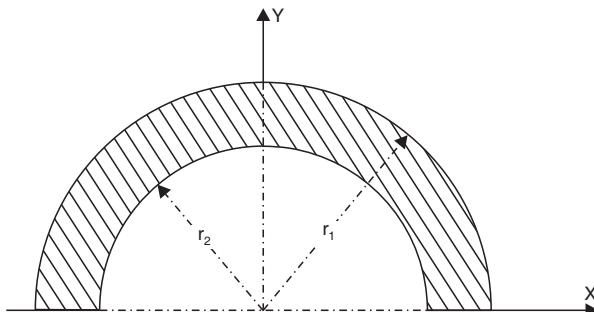

Fig. 7.49
12. Determine the position of centroid of an area enclosed by two semicircles and their common diameter as shown in Fig. 7.49. Take  $r_1 = 180 \text{ mm}$  and  $r_2 = 135 \text{ mm}$ .